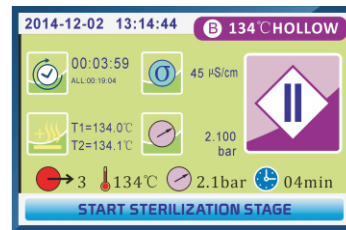

Fig.5.3-12
5.3.1.9.THE START STERILIZATION STAGE(Fig.5.3-12)